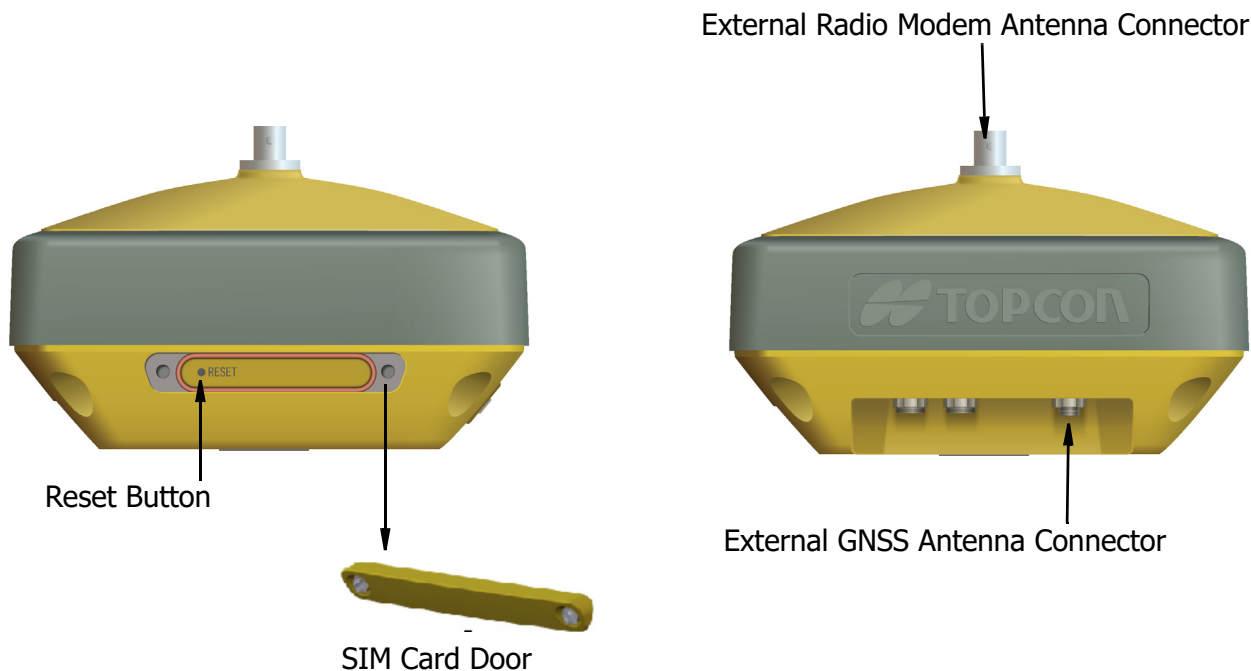

Figure 2-2: HiPer VR with a UHF or with FH915 Modem and Without a Cellular Module
2. A HiPer VR GNSS receiver **with** R2 UHF modem (P/N 1016578-13) or **with** R2 FH915 modem (P/N 1016578-14) and **without** a cellular module. The upper part of the receiver includes a connector for the radio modem antenna. The lower part of the receiver contains the **External GNSS Antenna Connector**. The **Reset Button** is located under the **SIM Card Door** in the lower part of the receiver (Figure 2-2).